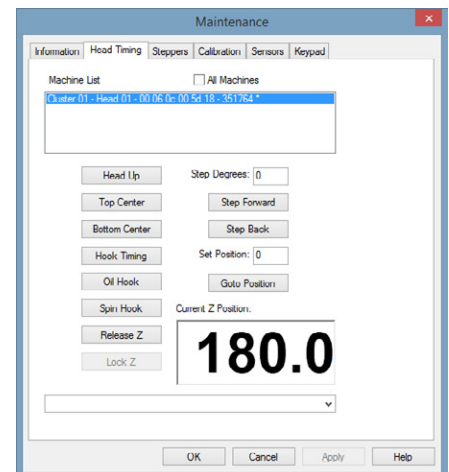

Figure 1 - Presser Foot Height
3. Click the Head Up button in the software Head Timing menu. Close the Maintenance menu screen in the software by clicking on the OK button (Figure 1).